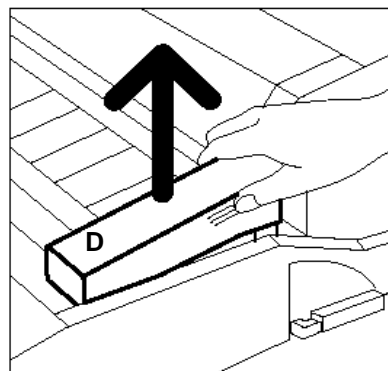

Figure 27: Removing the old Fuser Oil Cartridge (D)
- 6** Lift the Fuser Oil Cartridge straight up off the module, as illustrated in Figure 27. Hold it steady in this position until any excess oil has dripped off the cartridge and into the fuser oil reservoir. Hold a sheet of paper under the bottle nozzle to catch any drips while removing the cartridge from the machine.